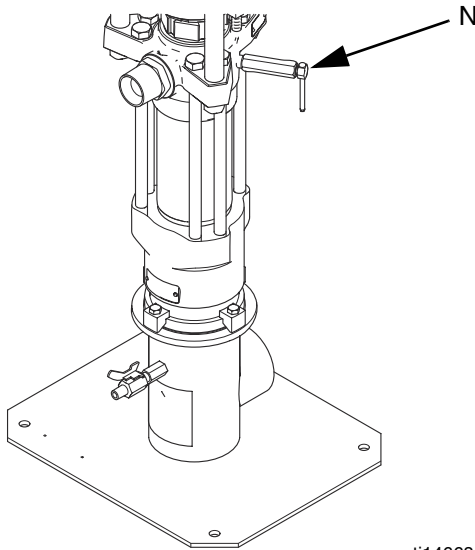

FIG. 6. Pump Bleed Valve
| C | Floor Stand | N | Pump Bleed Valve (see FIG. 6 on page 15) |
If the pump fails to prime properly, open the pump bleed valve (N) slightly. See FIG. 6. Use the bleed hole, on the underside of the valve, as a priming valve until the fluid appears at the hole. Close the plug.